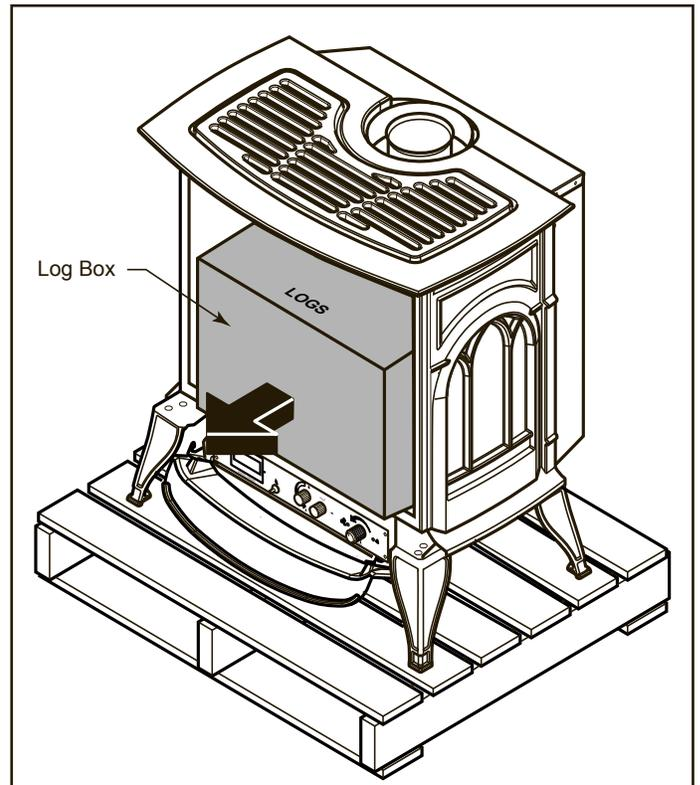

Figure 8 - Remove Log Box
3. Lift up on ash lip and pivot down to open control door. Figure 8
4. Lift up on front. Pivot bottom of front out. Remove front. Figure 8